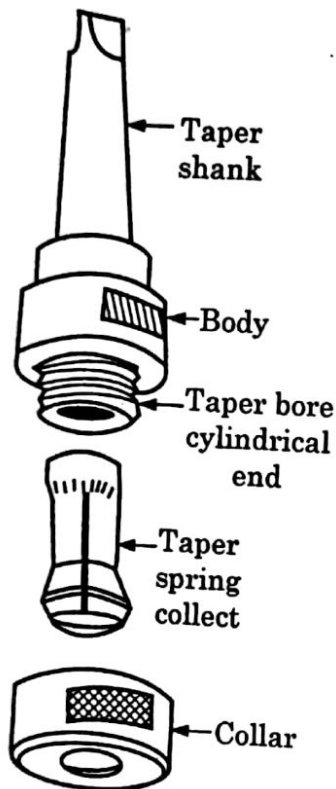

Fig. 2.34 : Collect Chuck
3. Collet Chuck : A type of collet chuck is shown in fig. 2.34. This chuck consists of a body with a taper shank at one end for holding the chuck in the drilling machine spindle and a threaded and taper-bored cylindrical section of larger diameter at the other end. A collet which has internal threads is screwed into the threaded portion of the chuck body. The leaves of the spring collet are contracted, thereby clamping the drill shank. The drill is released by turning the clamping collar in the opposite direction.